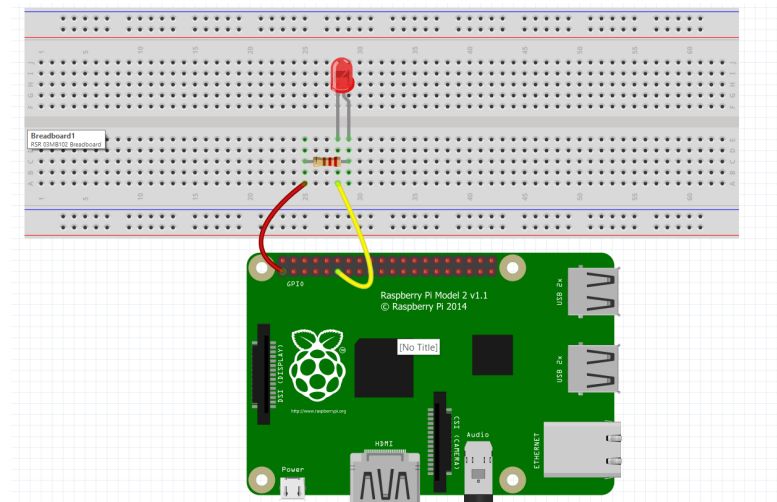

Figure 2: LED blink hardware schematic.
1. Connect the **LED**, as shown in Figure 2.